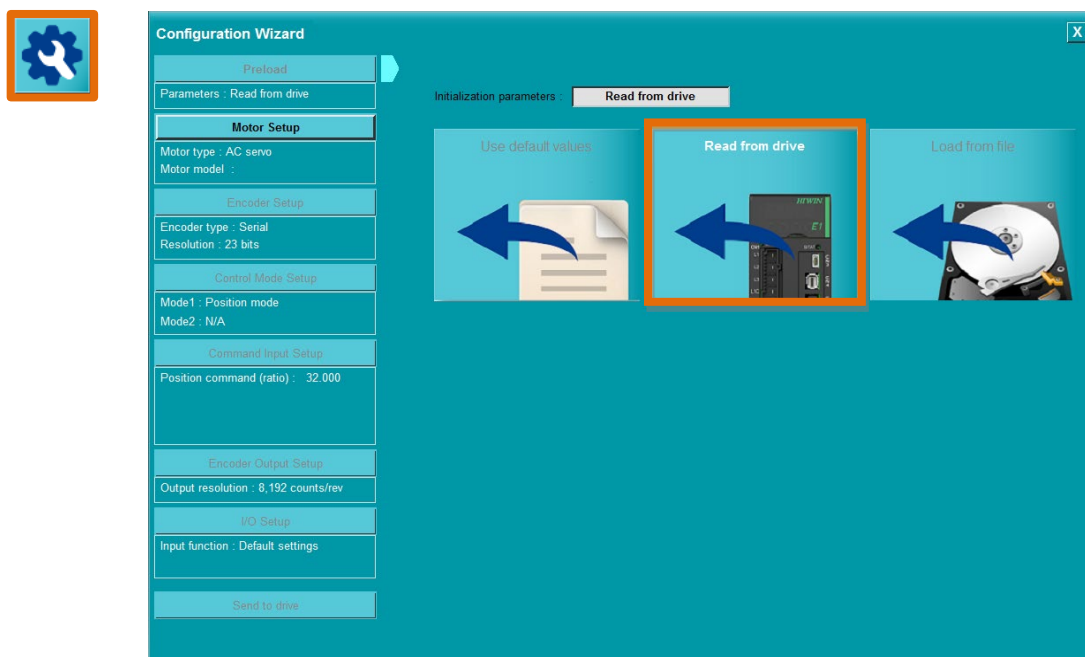

Figure6.1.1.1 Configuration Wizard in Thunder
- It is suggested to set setup parameters via Thunder. Users can follow the instructions given by Configuration Wizard in Thunder to set control mode, I/O signals and parameters for trial operation. Configuration Wizard in Thunder is shown in figure 6.1.1.1.